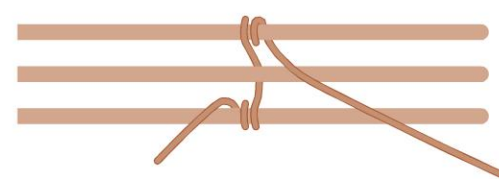

figure 21
- 4 Hold the second and third pieces of 16-gauge wire (Frame Wires 2 and 3) parallel to Frame Wire 1. Bring the weaving wire underneath Frame Wire 2 and over Frame Wire 3; coil twice (Figure 21).